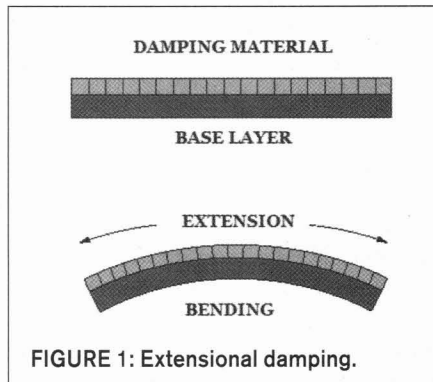

FIGURE 1: Extensional damping.
Fig. 1 illustrates the extensional damping (ED): the energy is dissipated by the deformation, due to compression and extension strain, of both layers; increasing the damping layer thickness increases the damping.